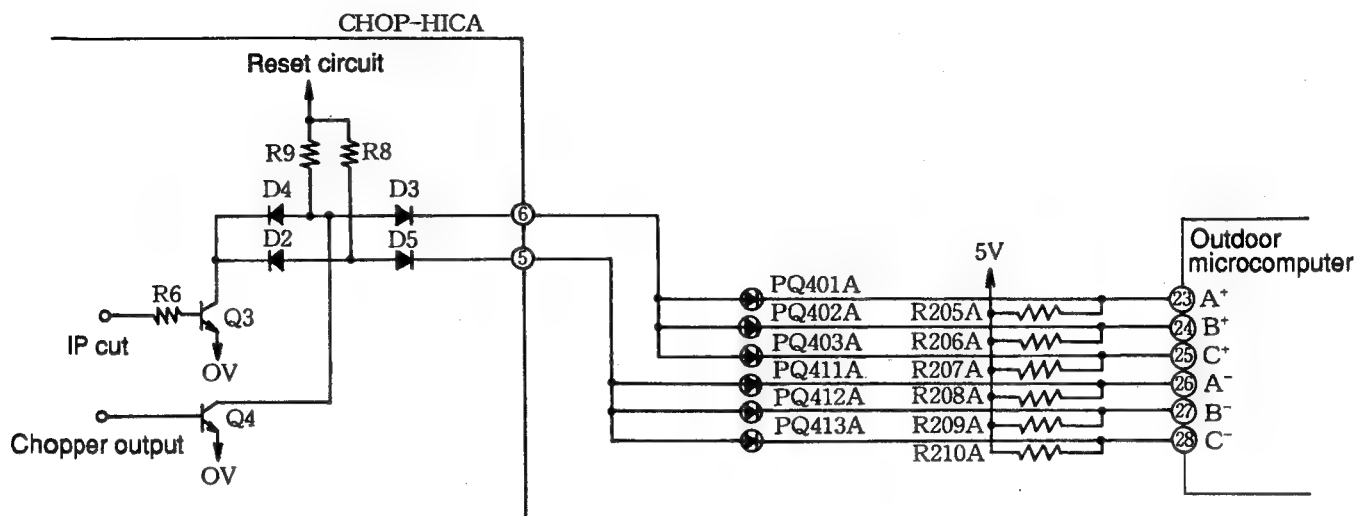

Fig. 10-1 Trip Signal Synthesis Circuit
- Fig. 10-1 shows the trip signal synthesis circuit.